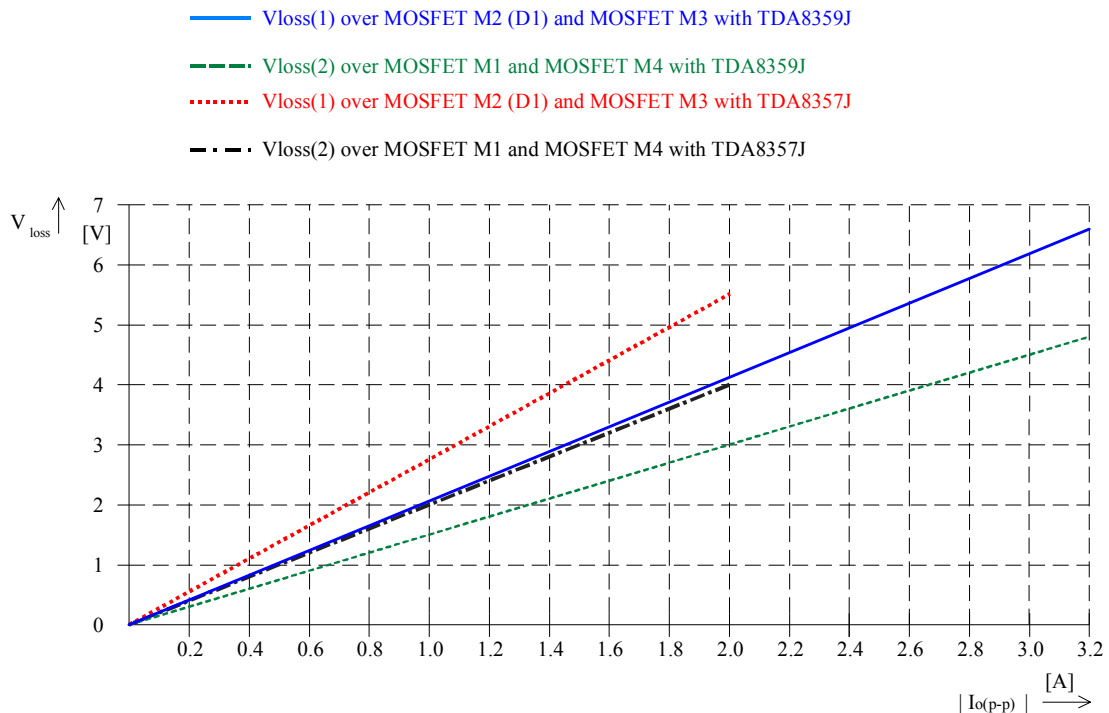

fig 32: Voltage loss of the output stage.
The value of the internal voltage losses given by the output transistors can be found in the next graph (see fig 32). $V_{\text{loss}(1)}$ gives the voltage loss for the first part of the scan time. So $V_{\text{loss}(1)}$ is the sum of the voltage losses of MOSFET M2, diode D1 and MOSFET M3. $V_{\text{loss}(2)}$ gives the voltage loss for the second part of the scan time. . So $V_{\text{loss}(2)}$ is the sum of the voltage losses of MOSFET M1, MOSFET M4. See fig 12.
- $V_{loss(1,2)}$; see fig 32
V_{\text{loss(1)}} &= 4.9 \text{ V (see fig 32)} \\
V_{\text{loss(2)}} &= 3.6 \text{ V (see fig 32)}